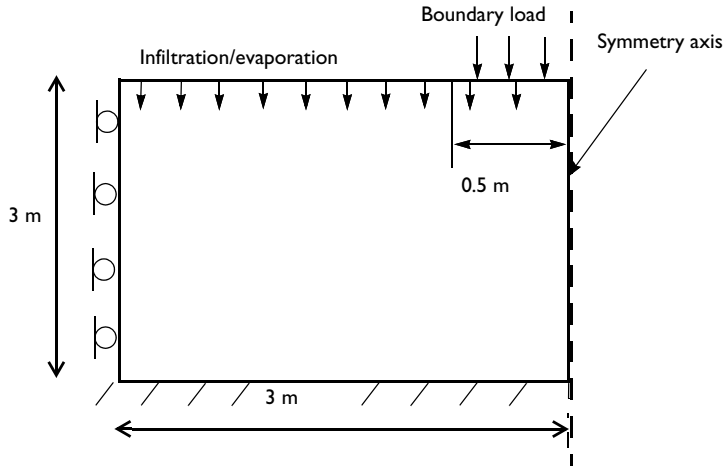

Figure 1: Dimensions, boundary conditions, pressure load, and flow rate for the unsaturated soil.
- A boundary load is applied on top of the soil layer to model the weight of the footing, see Figure 1.